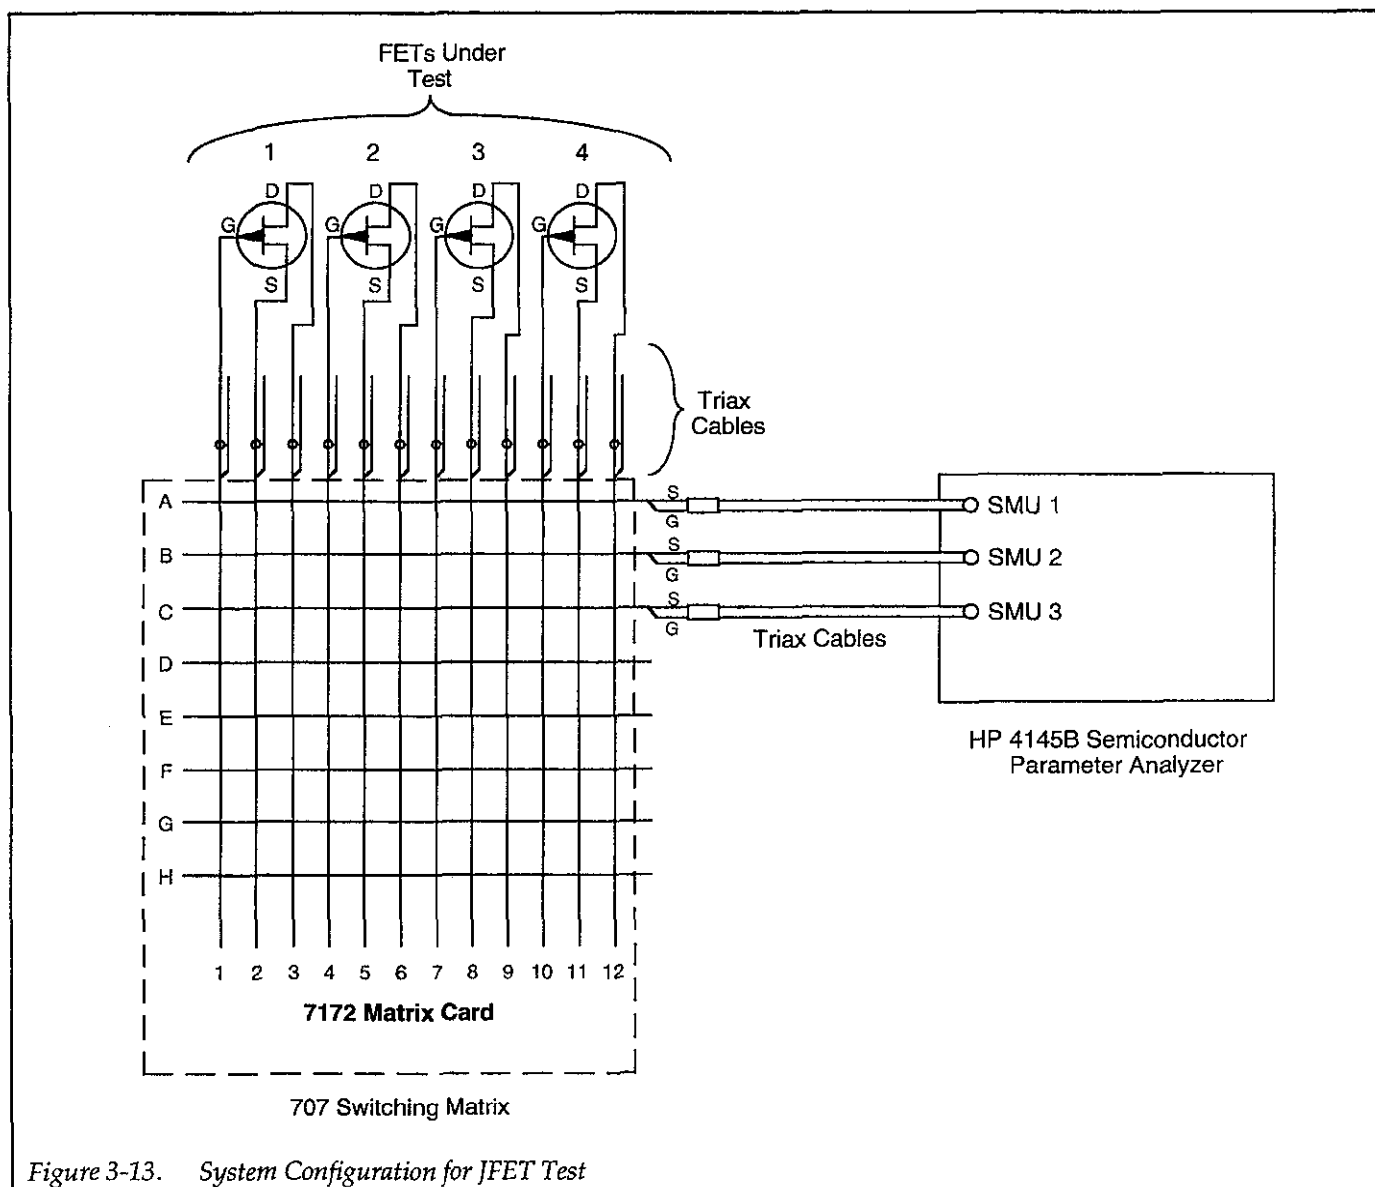

Figure 3-13. System Configuration for JFET Test
Figure 3-13 shows the configuration and connections for this example. Only three of the four SMUs are required for the test, as indicated in the figure. A total of four FETs can be connected to a single card, as shown on the diagram. In all cases, triax cabling should be used. The crosspoints to close to test a specific FET are summarized in Table 3-3.
\*Crosspoints from Figure 3-13.
1. Connect the system and devices together, as shown in Figure 3-13.